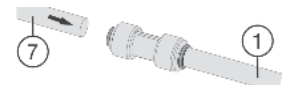

Fig. 37
- Connect the supplied extension hoses Fig. 37 (1) to the appliance hoses Fig. 37 (7): Slide the appliance hoses into the connectors as far as they will go (approx. 25/32 " (20 mm)).